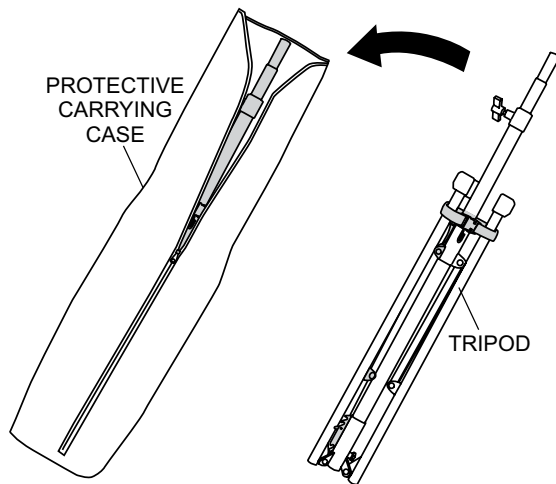

Figure 26. Carrying Case
- Place tripod (Figure 26) inside protective carrying case.